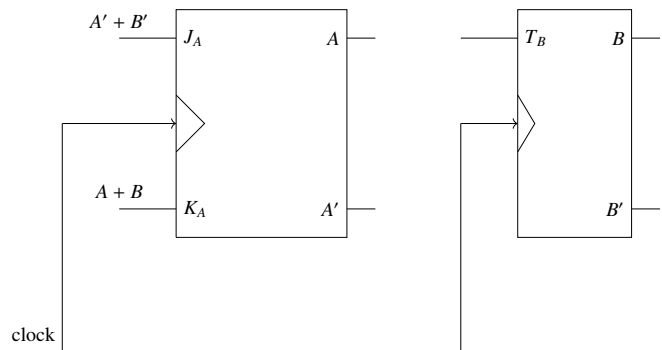

Fig. 5.15
15. Given below in Fig. 5.15 is the diagram of a synchronous sequential circuit with one  $J-K$  flip-flop and one  $T$  flip-flop with their outputs denoted as  $A$  and  $B$  respectively, with  $J_A = (A' + B')$ ,  $K_A = (A + B)$  and  $T_B = A$ . Starting from the initial state  $(AB = 00)$ , the sequence of states  $(AB)$  visited by the circuit is (GATE-IN2021)